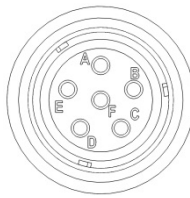

Figure 1 – Handset Interface
2.1 Handset – The handset connector is a six pin GC638S waterproof connector. Figure 1 and Table 1 describe the handset interface.